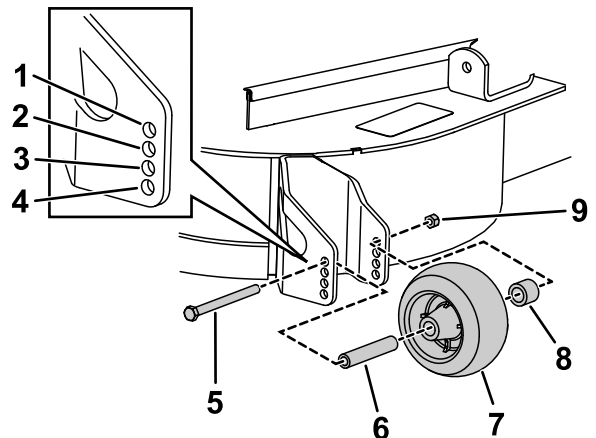

Figure 14
1. After adjusting the height-of-cut, adjust the rollers by removing the flange nut, bushing, spacer, and bolt (Figure 14).
3. Install the flange nut, bushing, spacer, and bolt. Torque to 54 to 61 N·m (40 to 45 ft-lb) (Figure 14).